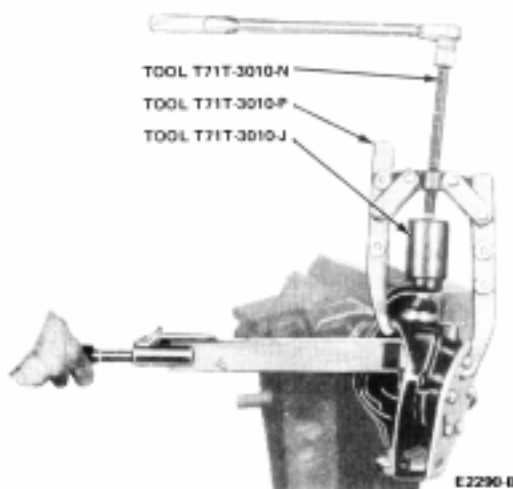

FIG. 9 Assembly of Knuckle to Yoke
7. Place a spanner wrench and step plate over the adjusting sleeve. Locate the puller exactly as shown, and turn the forcing screw. This will pull the knuckle assembly into the yoke. With torque still applied, tighten the bottom nut on the socket. Tighten the nut to 70-90 ft-lb (Fig. 9).